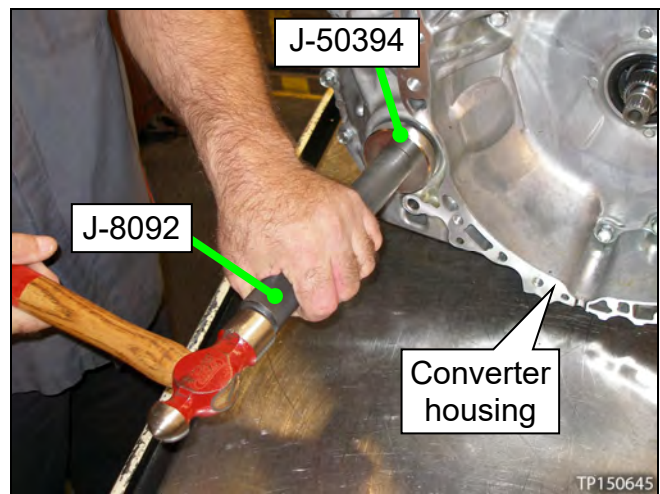

Figure 100
13. Install both differential (drive shaft) side oil seals. See Figure 100 and 101.